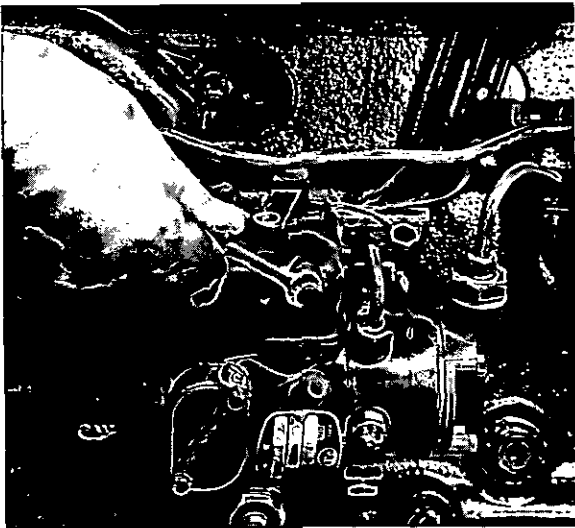

Fig. L.3
1. Slacken air vent screw on side of the governor control cover of fuel injection pump (Fig. L.3).